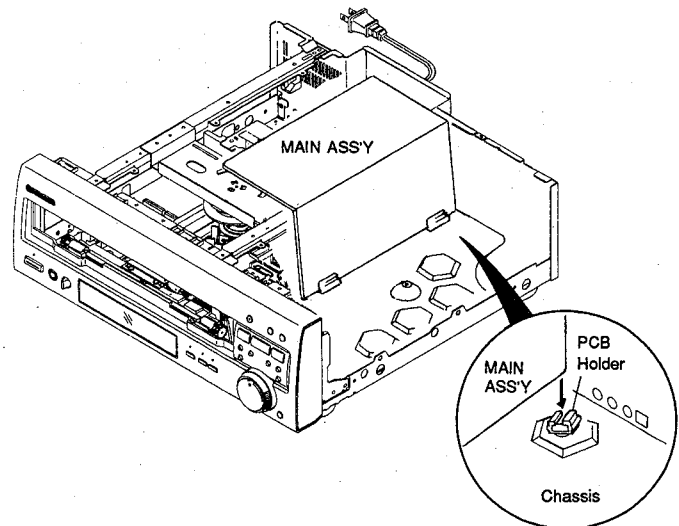

Fig. 2
- As shown in Fig. 2, fit MAIN assy into PCB holder on the chassis and by standing it against the inside of the chassis, the back side of the board (pattern side) can be diagnosed.